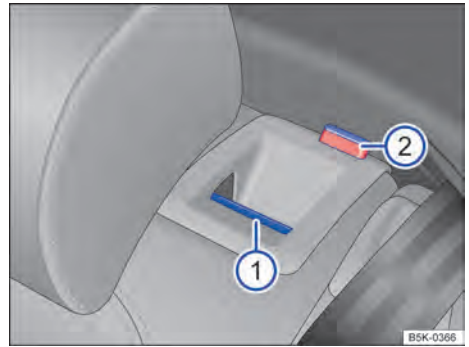

Fig. 67 On the rear seat backrest: unlocking button.
- Pull the release button → Fig. 67 ① forward and simultaneously fold the rear seat backrest forward.
- The respective section of the rear seat backrest will be released when the red marker → Fig. 67 ② pops up.
- The red marker → Fig. 67 ② must no longer be visible.